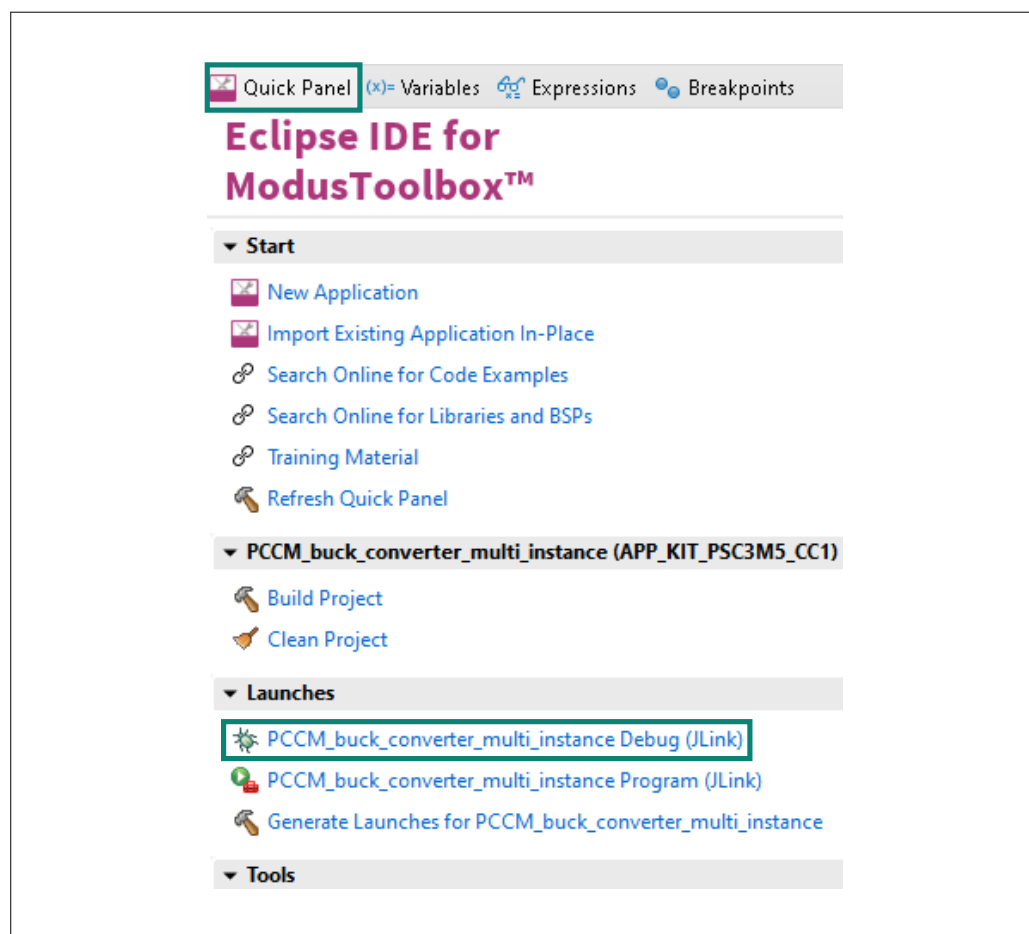

Figure 10
- b.** In the **Quick Panel**, click the **<App_Name> Debug (J-Link)** configuration from the **Launches** section, as shown in Figure 10